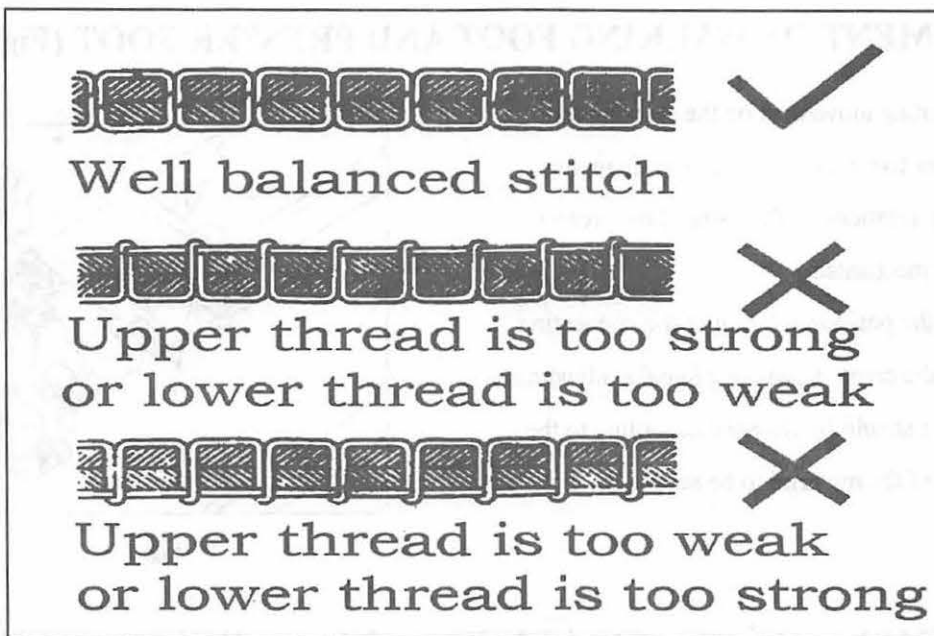

Fig.5
9. ADJUSTING THE THREAD TENSION (Fig.5)